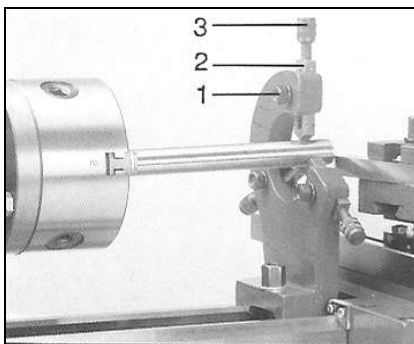

Fig 19
Tighten knurled screws (3, Fig 19) so that fingers (2) are snug but not tight against work piece. Tighten nuts (1).